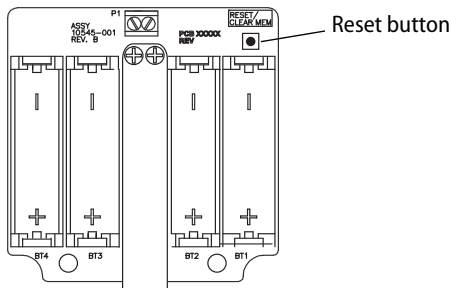
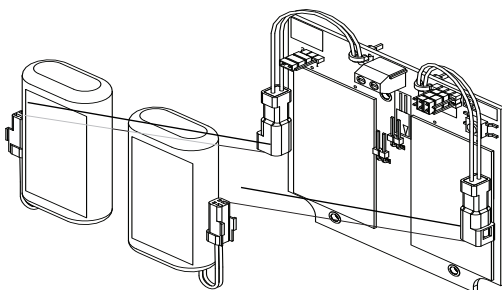

Figure 2 Using the reset button
Figure 3 Installing weatherized batteries
- 3 Install batteries with proper polarity as shown in Figure 2. (For weatherized battery packs, simply connect the wires from the battery pack to the circuit board as shown in Figure 3.)
- 4 Press and hold the reset button on the PC board (as shown in Figure 2) until the green light on the keypad flashes (about three seconds) then release the button. If green light does not flash, see "Troubleshooting" on page 4.